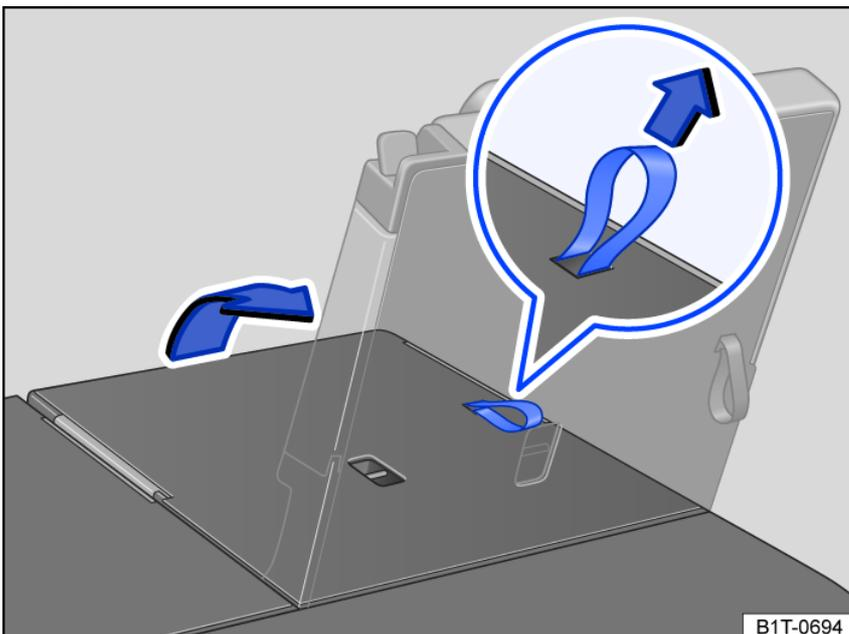

Fig. 81 Third row seat: folding the rear seat back.
3. To fold the rear seat backrest back, pull on the loop on the rear seat backrest *fig. 81*.
The red marking on the release lever *fig. 81* must no longer be visible.